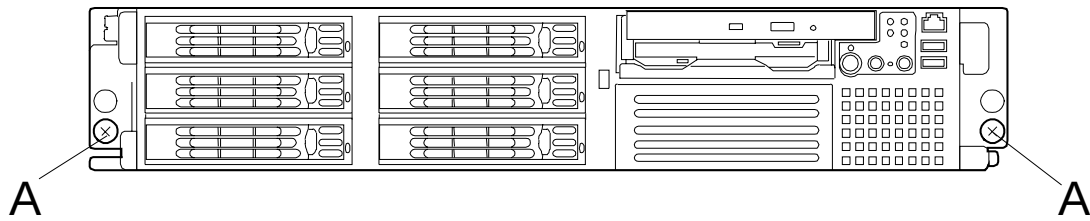

Figure 2-11. Securing the Server in the Rack
2. Tighten the right and left thumbscrews on the front panel to secure the server to the rack. See Figure 2-11, A.